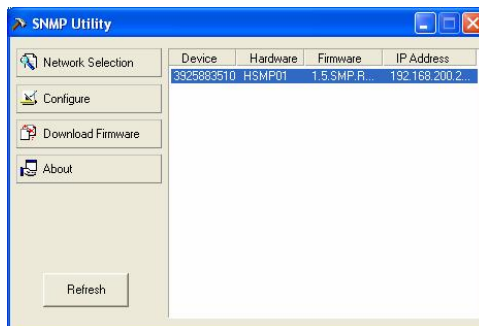

Figura 6 SNMP Utility
2. Fare clic su Start/ Programs (Programmi)/ SNMP Utility. Compare la schermata SNMP Utility, come illustrato in Figura 6